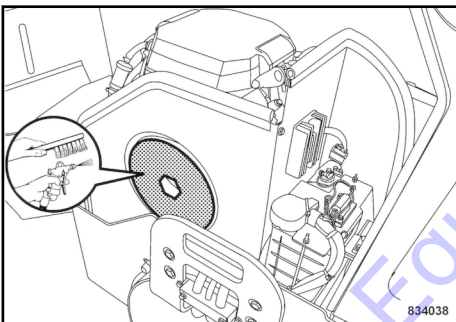

Fig. 163
1. Clean the cooling air intake openings  Fig. 163.